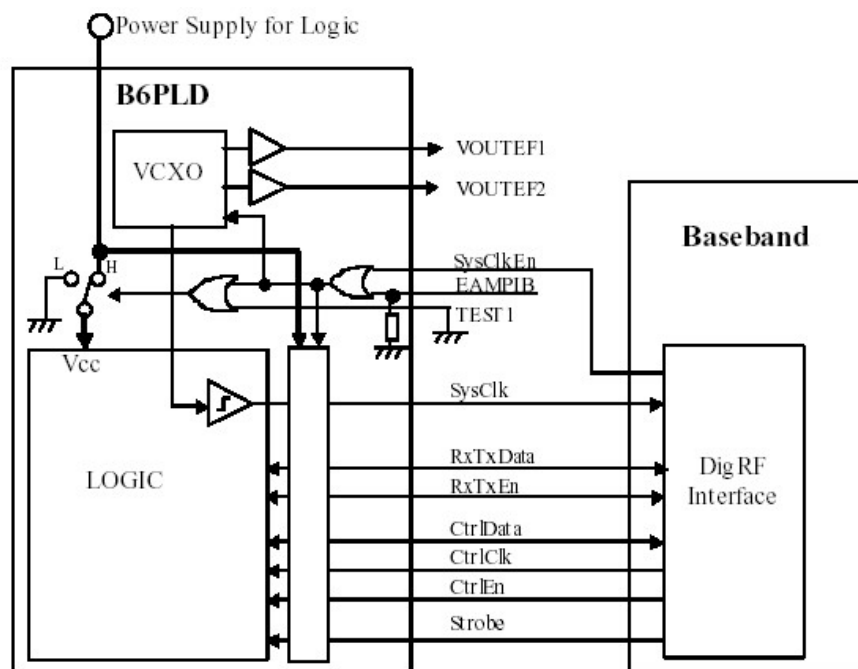

Fig. 1-1 Digital Interface Block Diagram
The digital interface consists of two separate interface connections; (1) the control interface, (2) the data interface, and a system clock on/off control signal and a precise timing signal. These are realized by eight signal lines in B6PLD (Look at Fig1.1 above)